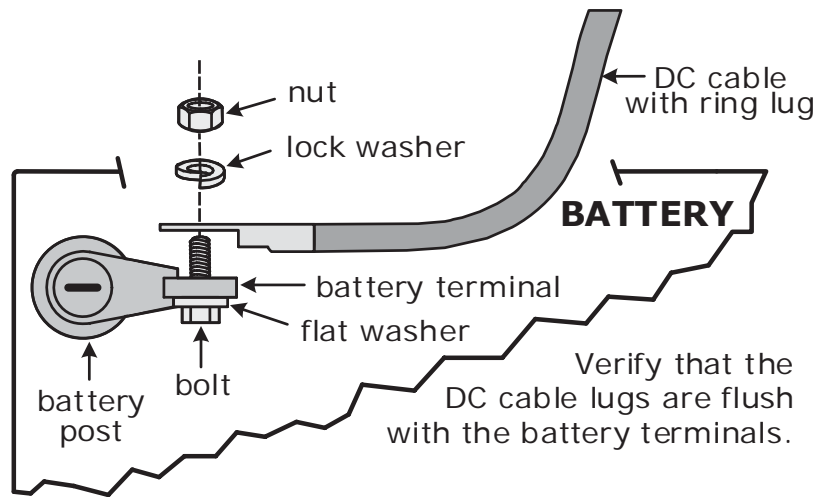
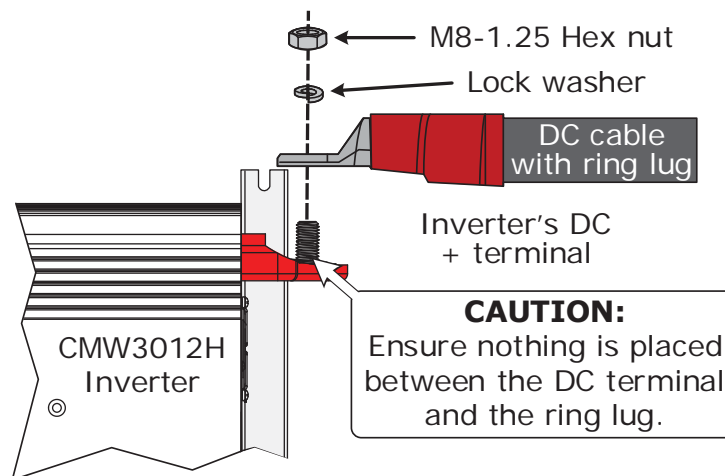

Figure 2-5, DC Cable to Battery Terminals
Figure 2-6, DC Cable to Inverter's DC Terminals
Refer to Figure 2-5 when connecting the DC wires to the battery, and to Figure 2-6 when connecting to the inverter. Also, consider the following requirements to ensure maximum performance:
Do not put anything between the battery cable ring lug and the battery post (Figure 2-5), or the flat metal part of the inverter's DC terminal (Figure 2-6). When connecting the battery cable, it should be placed directly against the battery post or inverter terminal. Incorrectly installed hardware causes a high resistance connection which could lead to poor inverter performance, and may melt the cable and terminal connections. See Table 2-1 for the torque requirements.
5. Ensure the DC wire connections (to the batteries, inverter, and DC circuit breaker) are flush on the surface of the DC terminals, and all hardware used to hold these connections are stacked correctly (per Figures 2-5 and 2-6). Verify all DC connections on the inverter are torqued correctly (Table 2-1), and the total cable distance from the inverter to the battery is within the requirement of Section 2.4.1.